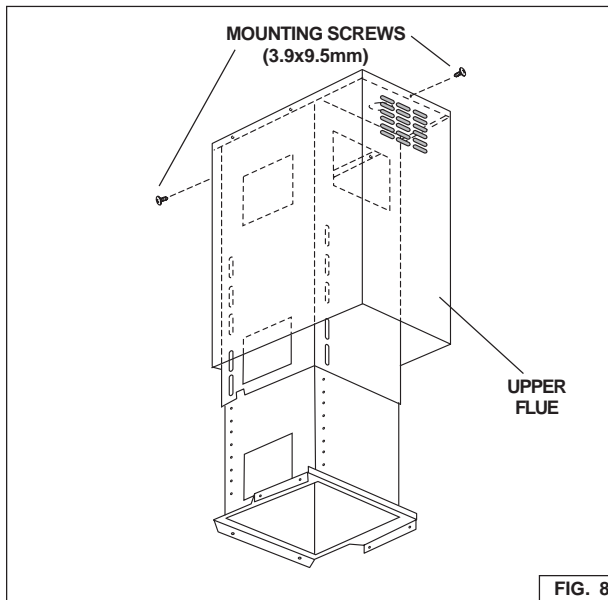

FIG. 8
1. Secure the **upper flue** to the upper support frame with the mounting screws (3.9x9.5mm). Fig. 8.